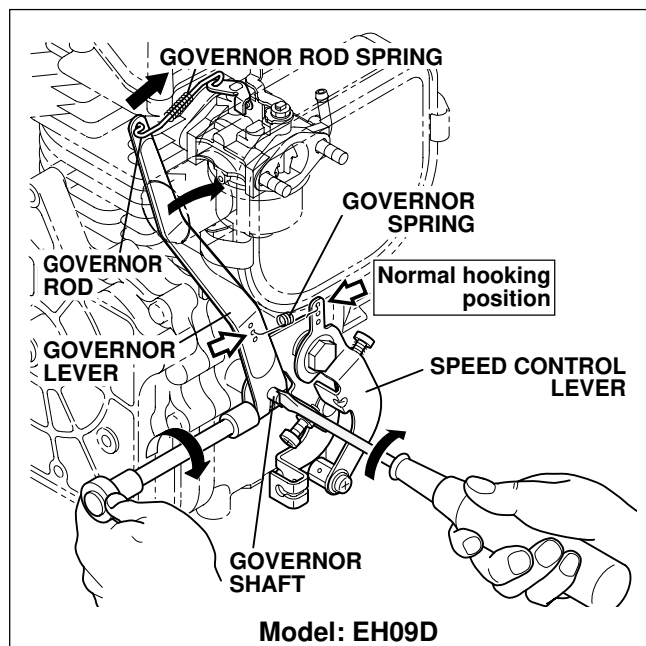

Fig. 5-40a
- (1) Install governor lever to governor shaft, then tighten the locking bolt temporarily.
- (2) Install base plate to crankcase.
- (3) Install speed control lever, friction washer, pivot bolt, etc. to base plate as shown in illustration.
- (4) Hook governor spring to proper holes of governor lever and speed control lever. (See Fig. 5-40a)
- (5) Install insulator and gaskets for carburetor to cylinder head.
- (6) Install carburetor to cylinder head hooking governor rod to governor lever and throttle lever of carburetor. Hook rod spring over governor rod.
- (7) Attach air cleaner base to carburetor. Tighten two flange nuts and a bolt. Connect breather pipe from rocker cover to cleaner base.